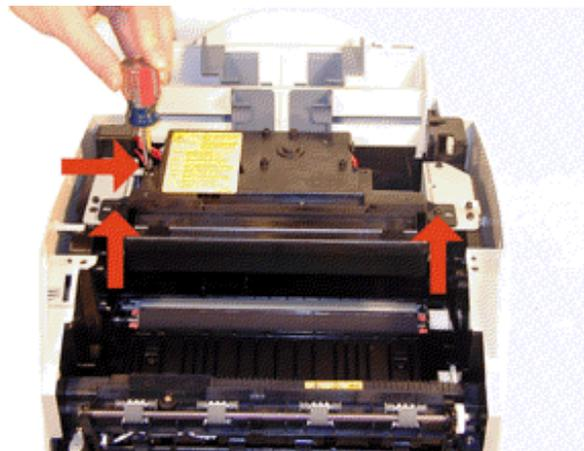

FIGURE 34
2. Remove the three black screws from the laser unit. Carefully flip up the laser unit so that the metal tab is exposed. See Figure 34